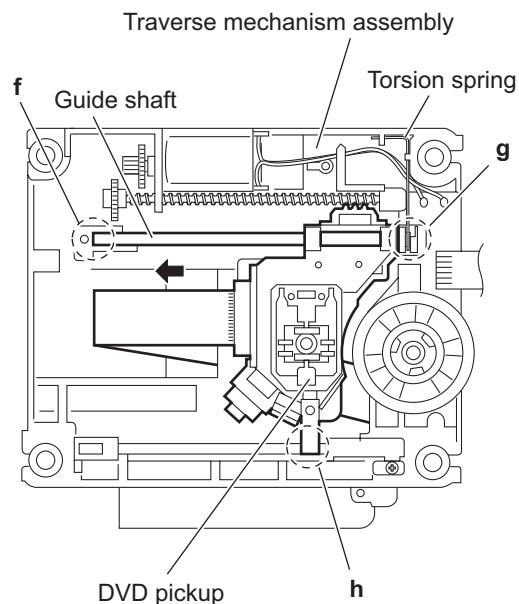

Fig.5
- (5) Remove the guide shaft of the DVD pickup from the section **f** on the traverse mechanism assembly and remove the guide shaft from the section **g** while moving it in the direction of the arrow. (See Fig.5.)
- (6) Remove the DVD pickup from the section **h** of the traverse mechanism assembly and take out the DVD pickup with the guide shaft. (See fig.5.)
- (2) Align the DVD pickup to the section **h** of the traverse mechanism assembly first, and set the both ends of the guide shaft of the DVD pickup in the sections **f** and **g** of the traverse mechanism assembly. (See Fig.5.)
When attaching the guide shaft to the section **g**, attach it under the rod spring. (See Fig.5.)